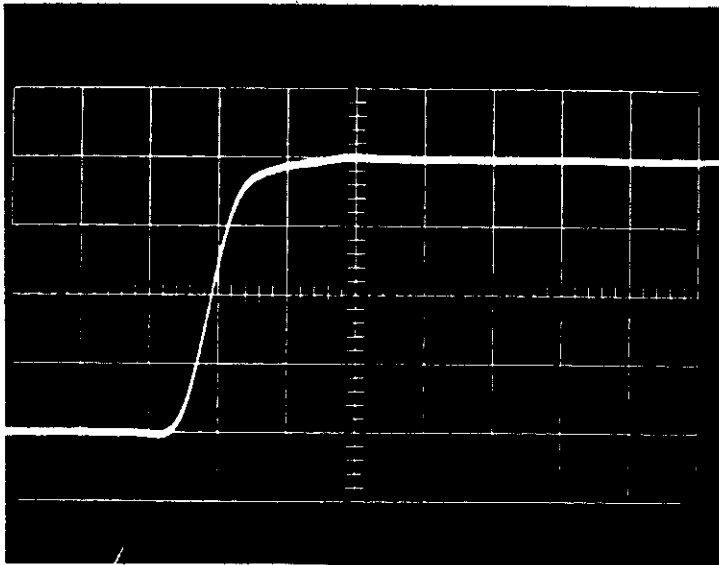

Figure 2-6.
d. EFFECT OF CABLE LENGTH ON PULSE RESPONSE (Figures 2-6 to 2-8)
Whenever the length of the unterminated cable is increased, the bandwidth of the system is reduced due to the increased cable capacity which the generator must drive. When both the sending and receiving ends of the transmission line are terminated in the characteristic impedance, the generator sees a resistive load, and therefore is no longer required to drive the line capacity. The reduction in signal amplitude is not paramount if the primary objective is the improvement to system response and pulse fidelity. See Figure 2-6.
In the previous example, Figure 2-6, it was assumed that the generator end of the coax was properly terminated in the characteristic impedance of the line and the load end (scope input) was unterminated.